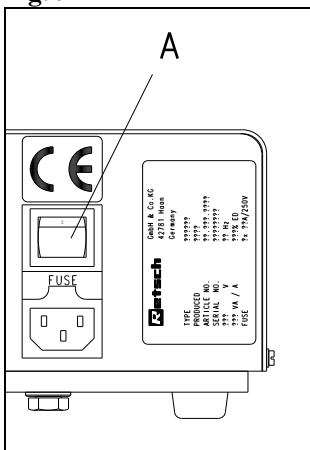

Fig. 10
- \* Switch off the main switch **A** at the rear; see **Fig. 10**.